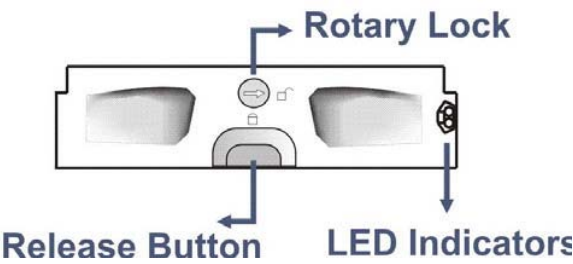

Figure 1-9: Drive Tray Front View
The enclosure comes with drive trays (see **Figure 1-9**) designed to accommodate separately purchased, standard 1-inch pitch, 3.5-inch SATA II disk drives. The drive bays are accessible from the front side of the chassis. Two (2) LEDs on the tray bezel indicate operating statuses. A rotary bezel lock prevents accidental removal, while a convenient release button ensures fast and efficient drive swapping. There are screw holes on the sides of the drive tray for securing hard drives to the drive tray.